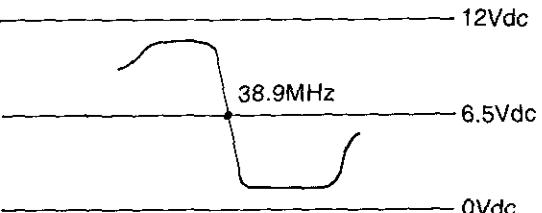

Figure 11
- (1) Change the coupling of the input terminal of the alignment scope from the pin 22 to the pin 17 of P101.
- (2) Adjust the sweep waveform of the alignment scope as shown in figure 11.
- (3) Adjust L104 to place the 38.9MHz marker at the position of D.C.6.5V±0.5V as shown in figure 11. Be sure to adjust after disconnecting C164 from the AFT terminal.